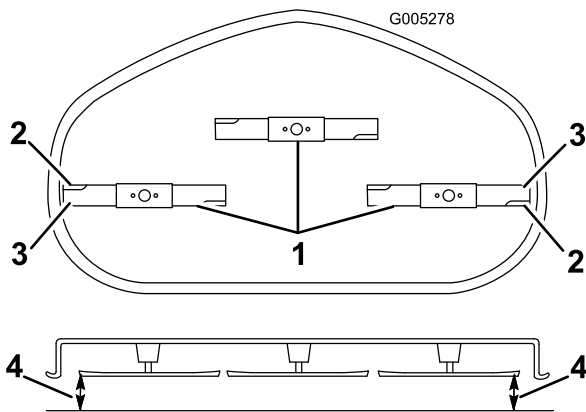

Figure 52
- Carefully rotate the blades so that they are all side to side (Figure 52).
- Measure between the outside cutting edges and the flat surface (Figure 52). If both measurements are not within 3/16 inch (5 mm), an adjustment is required; continue with this procedure.